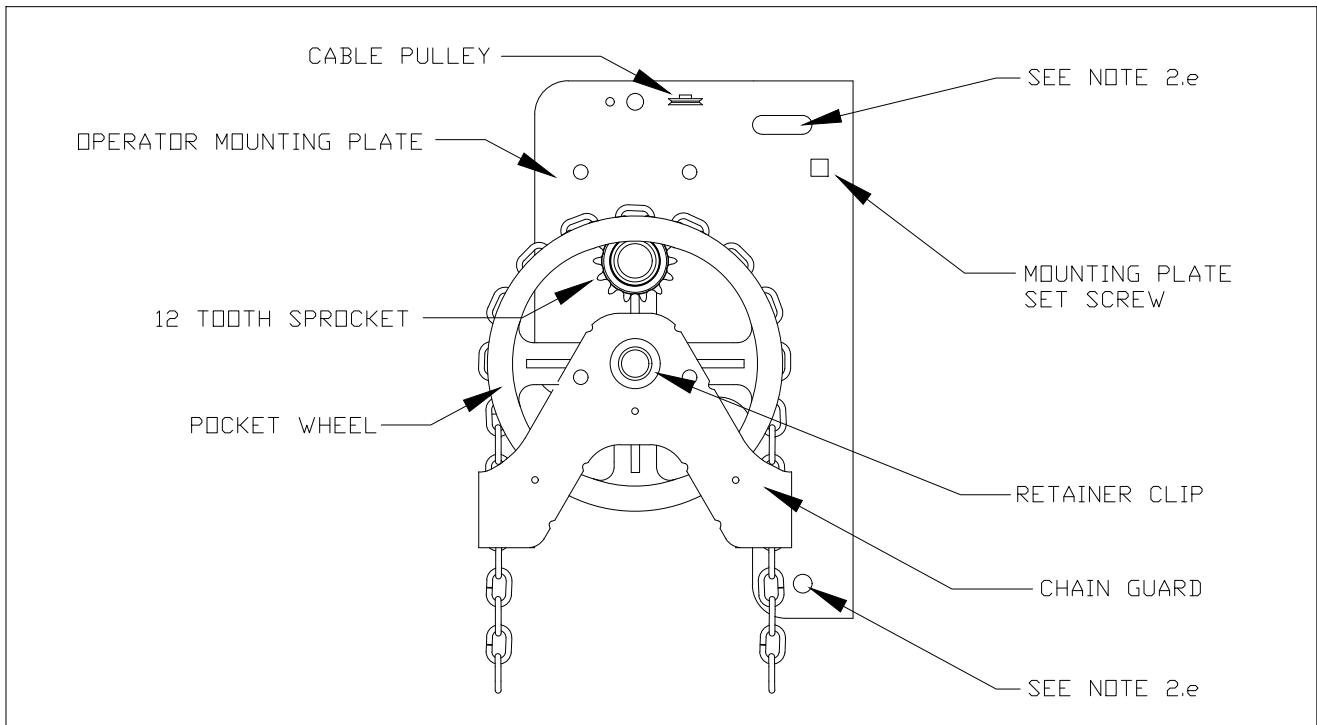

FIGURE 2
- a. Attach the operator to the mounting plate as shown in Figure 2 using four 3/8" nuts with lock washers.
- c. Install pocket wheel with key stock, followed by chain guard with retainer ring as shown in Figure 2.